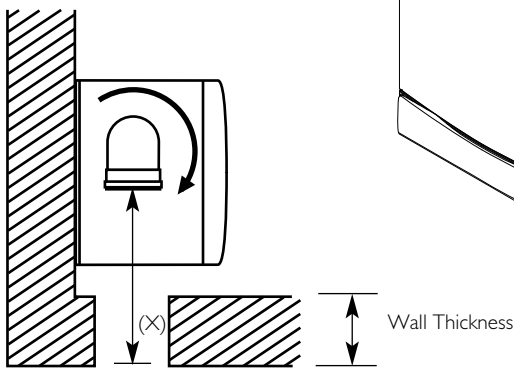

Fig. 48
3. Measure the distance from the outside wall face to the elbow. This dimension will be known as 'X' (Fig. 48).